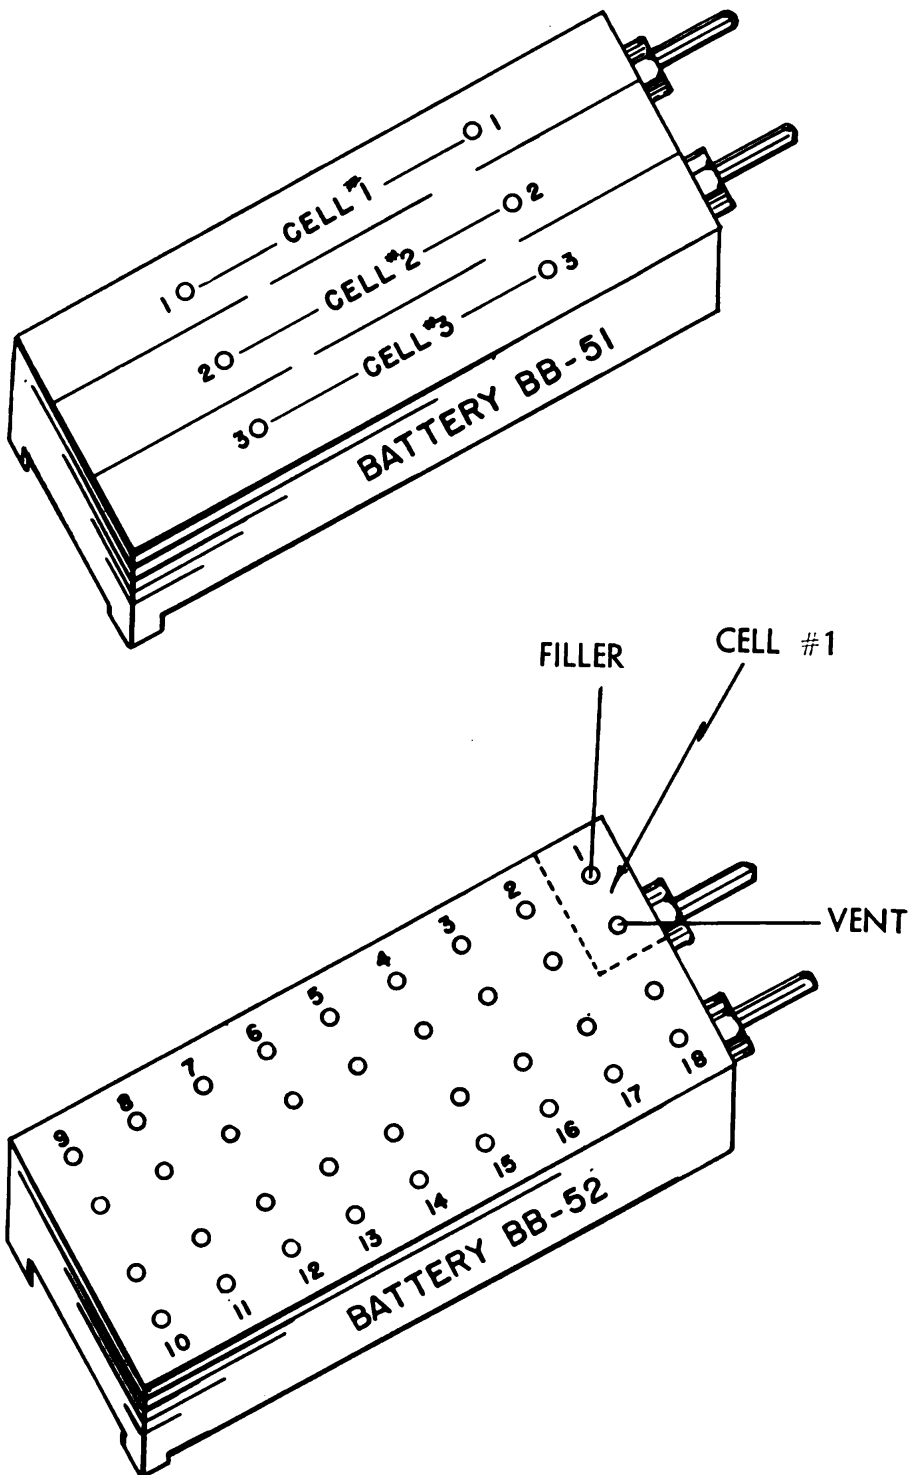

Figure 7. Miniature Storage Batteries BB-51 and BB-52
(1) Remove one set of batteries from the tray. A set of batteries contains: one “A” battery and two “B” batteries, labeled BB-51 and BB-52, respectively. The “A” Batteries (BB-51) have six pin holes on top while the “B” Batteries (BB-52) have a large number of pin holes on top.
(2) Remove the acid bottle and fill it with sulfuric acid (1.280 specific gravity) from the container which is shipped with the batteries. If this container is missing or broken, have the acid bottle filled at your supply base using acid for vehicular batteries. **Caution: Sulfuric acid is very corrosive to metal and destructive to fabrics. Don't let it get on equipment or clothing. Be careful.**
**8. Filling the Batteries.**—Miniature storage batteries BB-51 and BB-52 (figure 7) are charged, but dry, and before they can be used for generating current their cells must be filled with sulfuric acid. Before filling the hypodermic syringe with acid to put in the cells, however, the empty syringe should be used to pierce the seals inside the cell holes of each battery (6 for BB-51, 36 for BB-52). Push the needle into the cell hole as far as it will go with a light finger-pressure.
(1) Insert needle into either of the previously-punctured holes numbered 1 of cell #1 (figure 7).
(2) Slowly force the acid out of the syringe by pushing the plunger with the thumb.
(3) Approximately 6 cc of sulfuric acid are needed to fill each cell in the BB-51.